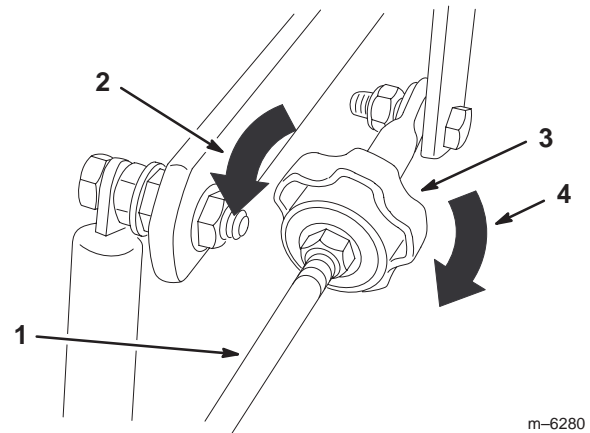

Figure 53
4. To make the machine go right, turn the knob towards the right side of the machine. Refer to figure 53.
5. To make the machine go left, turn the knob towards the left side of the machine. Refer to figure 53.